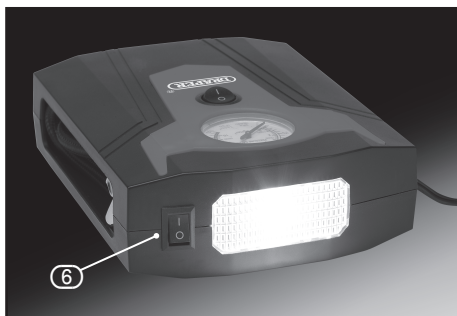

FIG.6
8.4 INTEGRAL LED WORKLIGHT – FIG.6